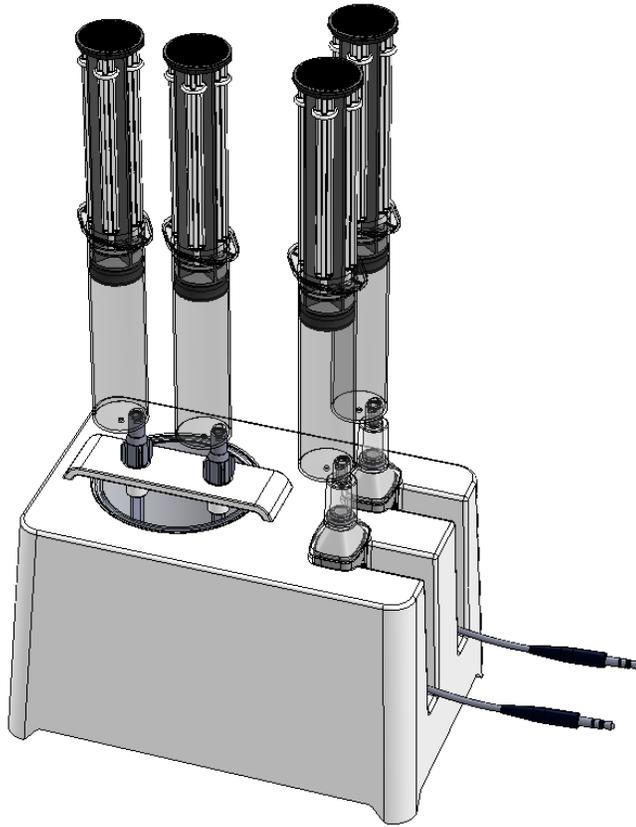

Figure 4 Refill unit with TEROS 31 sensor
14. Place the sensor unit in the notch of the refill unit rack (Figure 4).